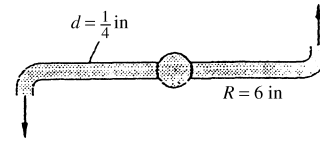

Fig. P3.110
3.110 The horizontal lawn sprinkler in Fig. P3.110 has a water flow rate of 4.0 gal/min introduced vertically through the center. Estimate (a) the retarding torque required to keep the arms from rotating and (b) the rotation rate (r/min) if there is no retarding torque.